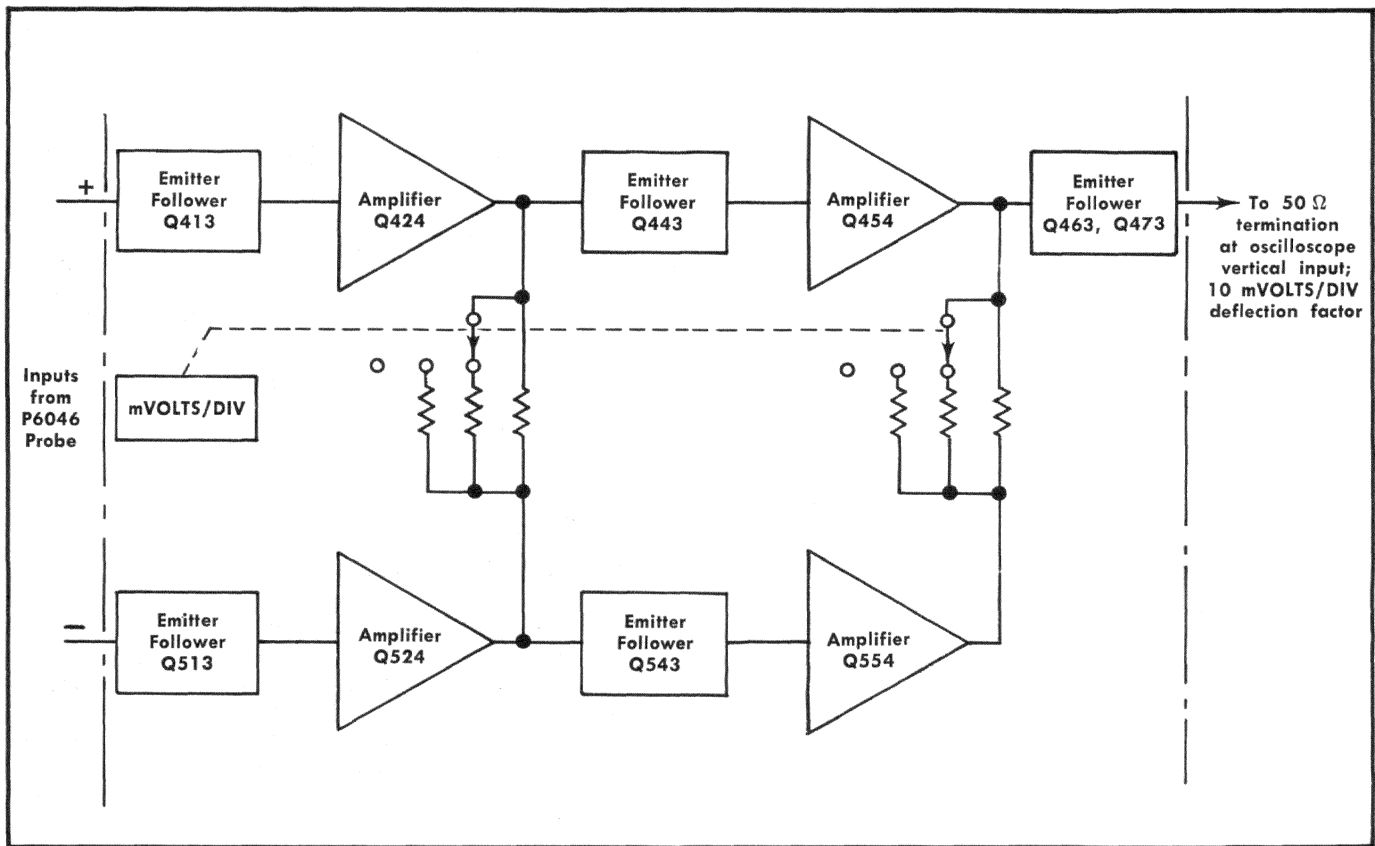

Fig. 3-3. Amplifier For P6046 block diagram.
**Block Diagram Description.** Refer to Fig. 3-3. The push-pull signals from the Probe are applied to emitter followers which provide isolation between the Probe and the Q424-Q524 amplifiers. After being amplified by Q424 and Q524, the signals pass through another pair of emitter-followers and are applied to a second amplifier stage, consisting of Q454 and Q554. The output from the + side of the second amplifier stage is then applied to the final emitter-follower stage, whose output is designed to supply a drive signal into a 50  $\Omega$  load.